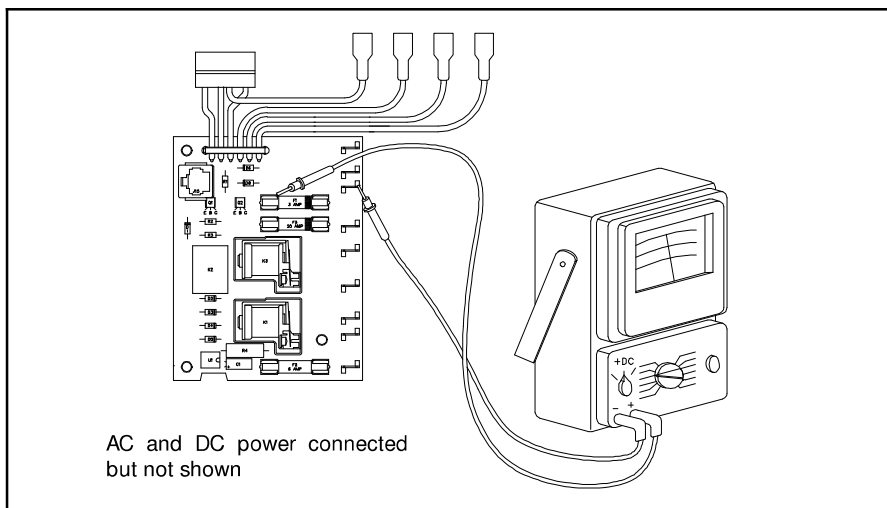

Figure 11.52 3 Amp Fuse Check
5. With the volt-ohm-meter set to measure + 12 volts DC, check for 12 volts through the fuse as shown by Figure 11.52. If you do not have 12 volts, replace the 3 amp fuse.